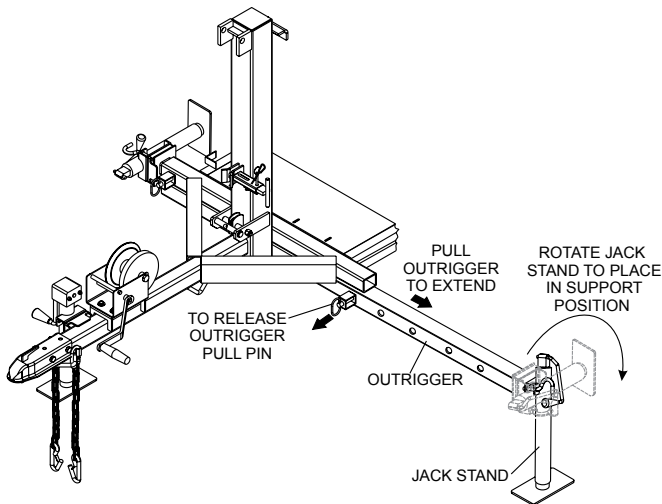

Figure 3. Deploying Outriggers
1. Make sure both outriggers are extended. To extend the outriggers, pull the locking pin on the outrigger and hold while sliding out the outrigger assembly. See Figure 3.